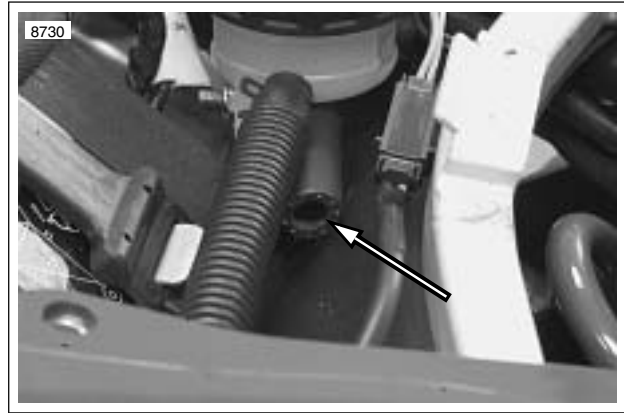

Figure 3-40. Transmission Vent Line
6. See Figure 3-40. Route transmission vent line up through left side of frame exiting under the rear master cylinder under the rider's seat. Install two tie wraps to secure transmission vent line in place. Inspect vent line to verify space between vent line and rear exhaust.